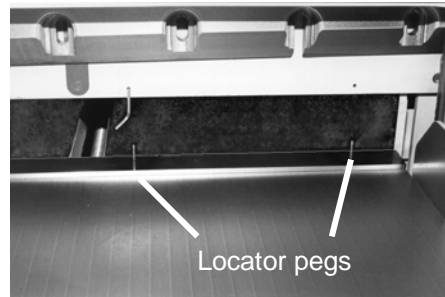

Figure 21
2. Position the false clamp plate under the clamp, (Figure 21). The locator pegs are positioned to the rear of the cutter and are set into holes in the bottom of the clamp.